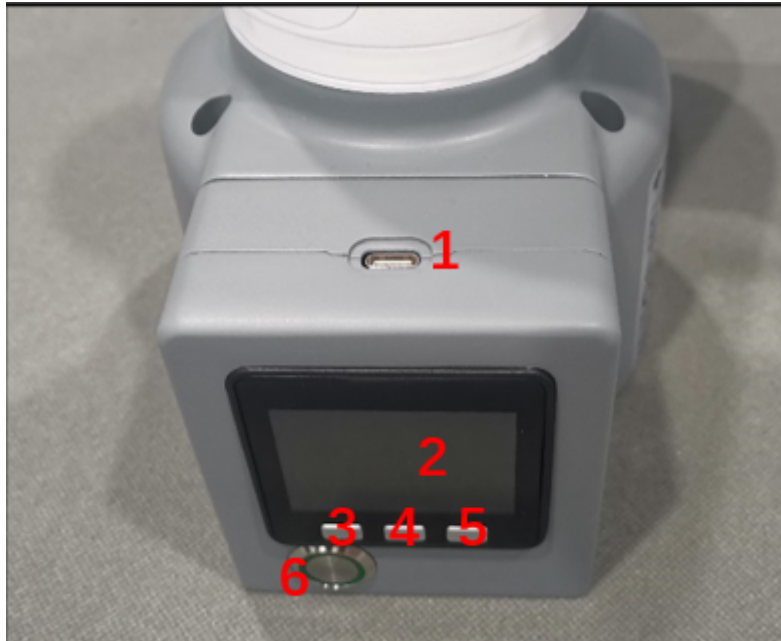

Figure 2-3 Front view of the base
A. The lateral interface, screen and buttons of the base are shown on Figure 2-3: